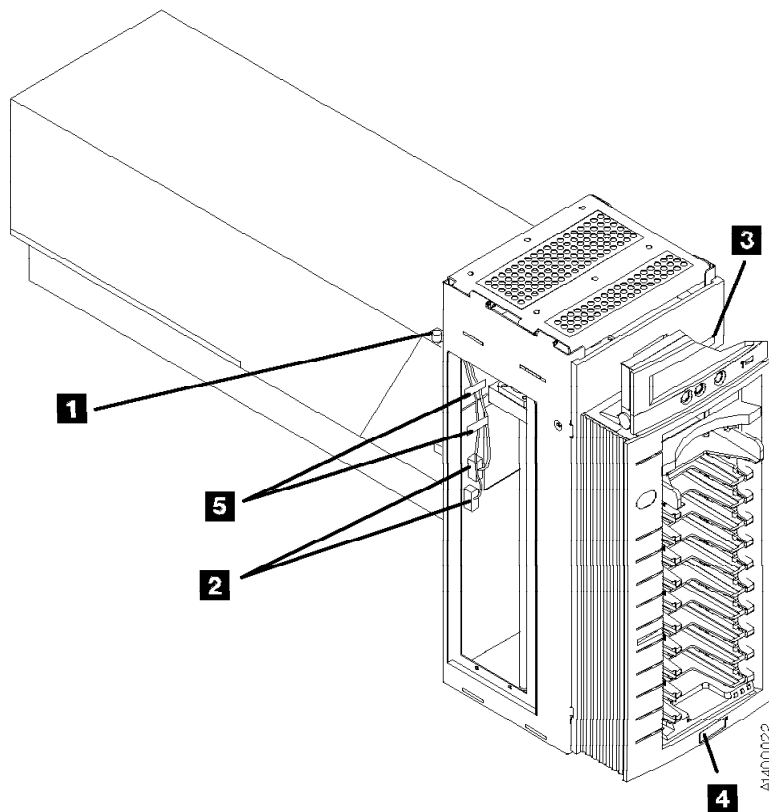

Figure 198. ACF Thumb Screw and Cables
- ___ 5. See Figure 198 on page INST-20.
- ___ 7. See Figure 198. Connect the two cable connectors **2** from the ACF to the device.